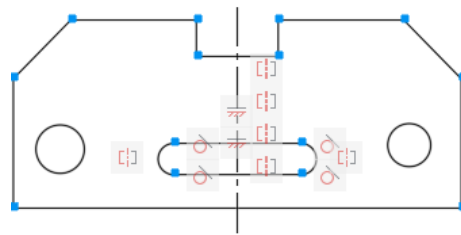

Figure 1-15 Sketch after applying all Tangent constraints
23. Similarly, apply the tangent constraint at all other places in the slot, as shown in Figure 1-15. You need to choose the **Show/Hide** button to display all constraints.